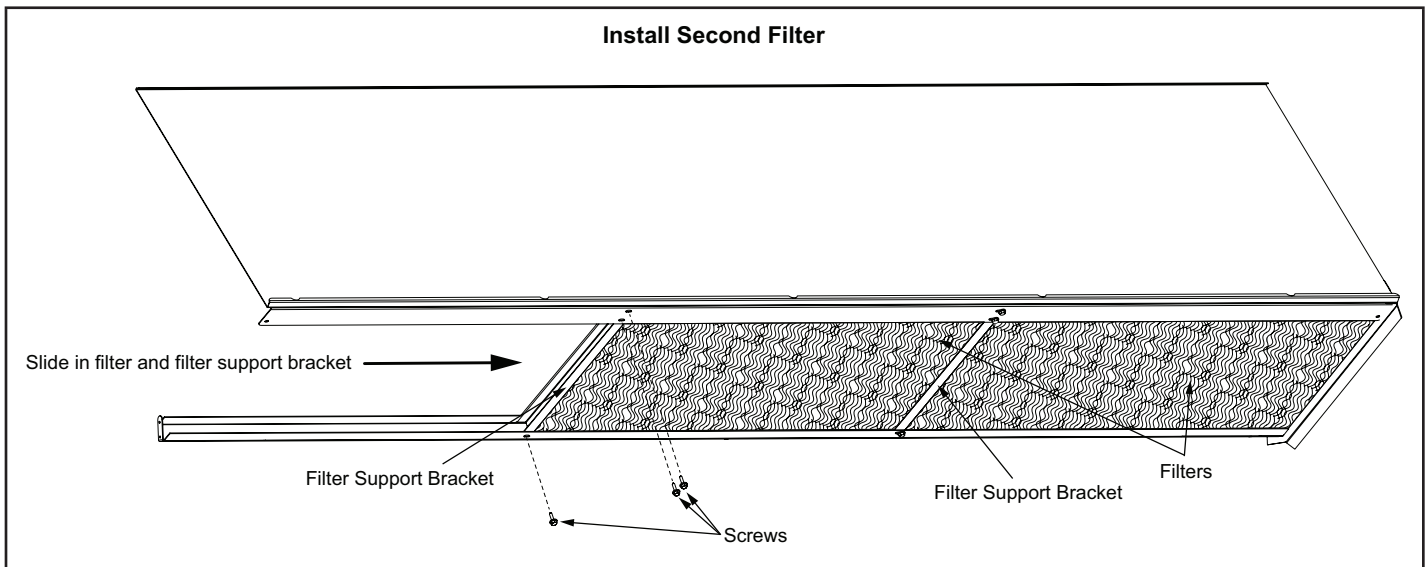

FIGURE 11
- 18 - Slide the second filter in from the left side until it's flush with first filter support bracket. See FIGURE 11.